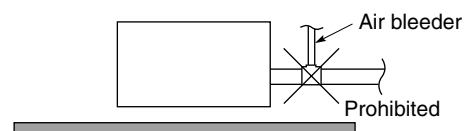

Fig. 3-196
- Do not install an air bleeder as this may cause water to spray from the drain pipe outlet. (Fig. 3-196)